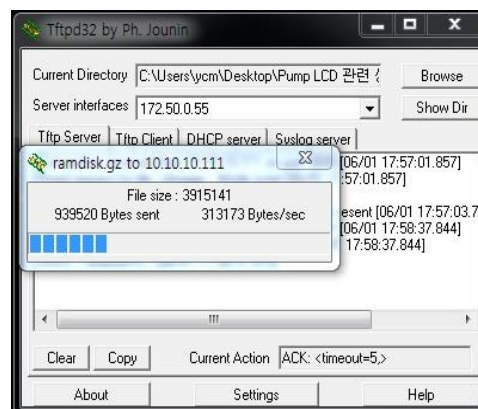

Figure 15. tftpd32 - 'ramdisk' writing
17. Then, 'ramdisk' file starts to write (see Figure 15).